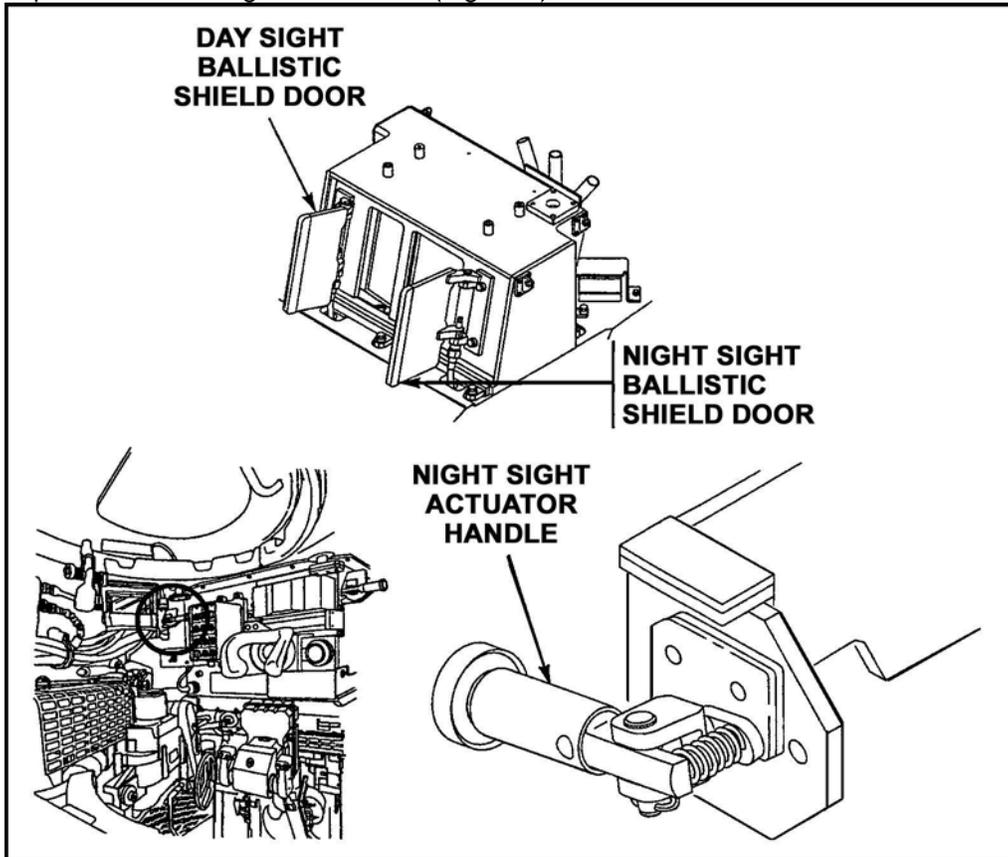

Figure 4. Actuator handle.
g. Open the ballistic sight cover doors (Figure 4).